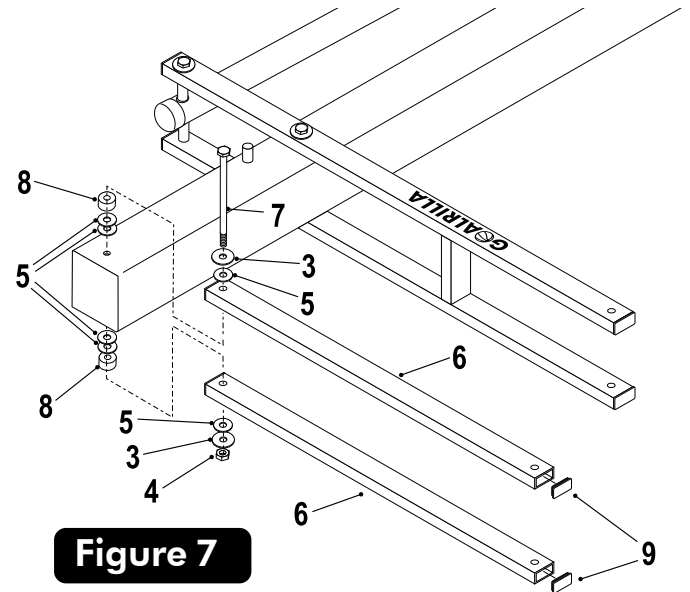

Figure 7
8. Attach Upper Arms (#6) to Pole (#2), as shown in Figure 7, using a bolt (#7), two flatwashers (#3), six plastic washers (#5), two spacers (#8) and one hex nut (#4).